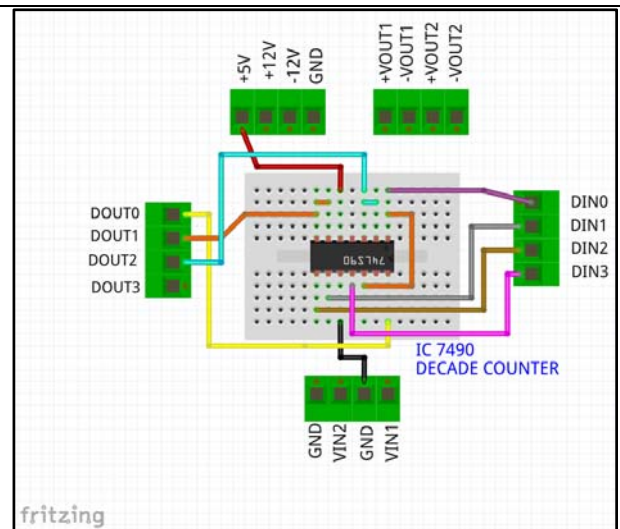

Fig 26. Test Setup
1. Connect the Decade Counter using IC LM7490 along with +5V supply and ground using the setup shown in Fig 26.